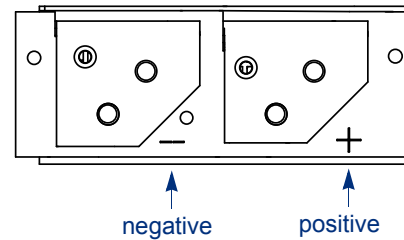

Figure 31. Terminal cover - AC power supply
3. Using one of the two sets of #4 AWG wiring pairs, place one negative, flat-angled lug (Figure 32) over the negative (left side) set of 2 DC connectors on the first AC power supply (Figure 31).
4. From the same set of #4 AWG wires, place the positive, flat-angled lug (Figure 32) over the positive (right side) set of 2 DC connectors on the first AC power supply (Figure 31).
12. Replace the safety terminal covers (Figure 31) of each AC power supply over the DC connectors (now with DC wires installed). Use a Phillips-head screwdriver to tighten the screws of the terminal covers.